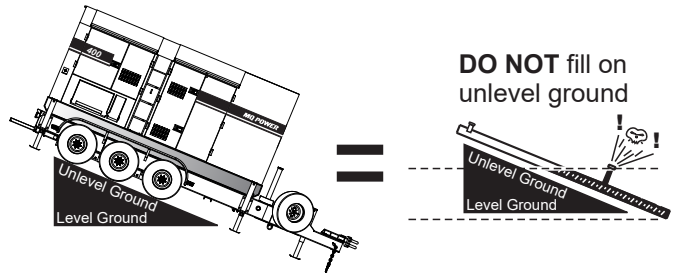

Figure 30. Only Fill On Level Ground
1. **Level Tanks** — Make sure fuel cells are level with the ground. Failure to do so will cause fuel to spill from the tank before reaching full capacity (Figure 30).